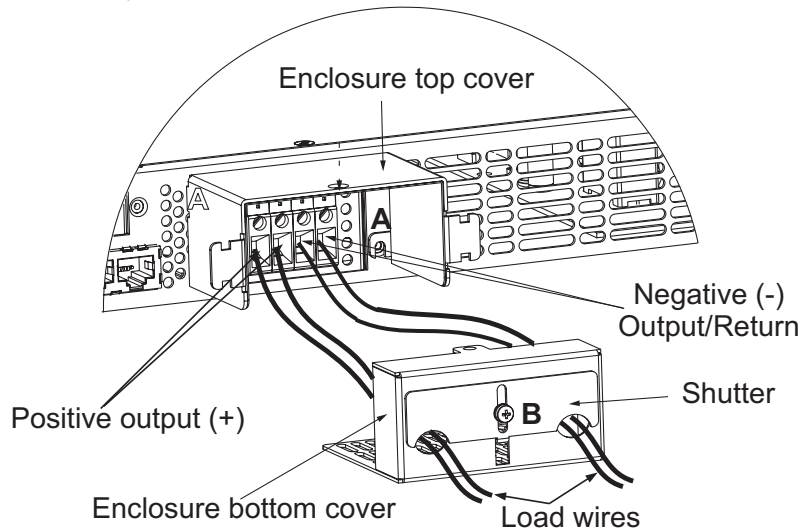

Fig.3-8: Load wires connection to the output connector
4. Insert stripped wires into enclosure bottom cover opening and then to the terminals, tighten the terminals screws securely (see fig.3-8)